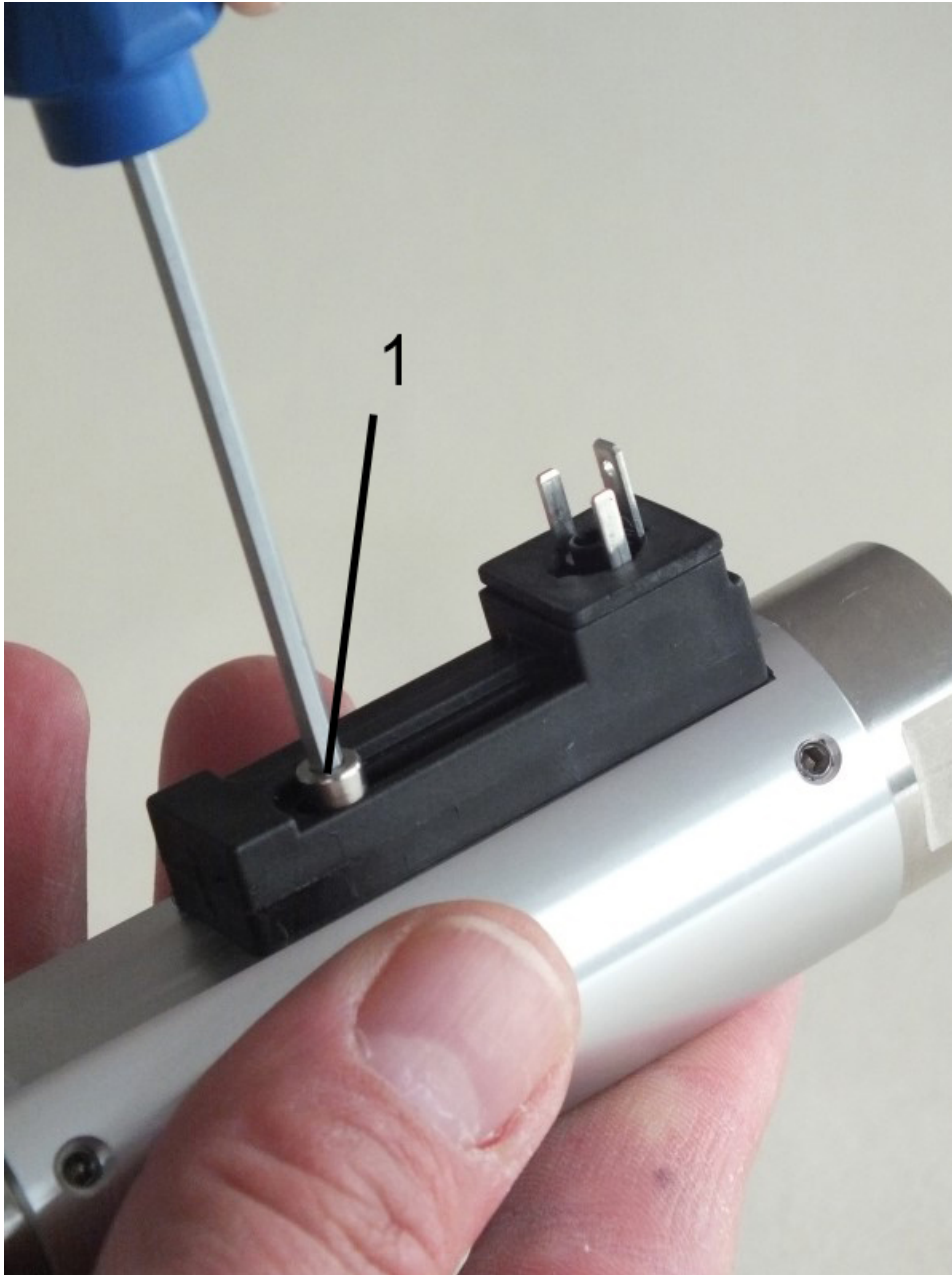

Fig. 54: Remove set screw
3. ➤ Using a hex screwdriver (*Fig. 54/1*) remove the set screw of the switch contact
- 7.** ➤ Insert the set screw (*Fig. 54/1*) and tighten it slightly so that the switch contact can still move easily
- 9.** ➤ Retighten the set screw (*Fig. 54/1*), observing the proper tightening torque (➔ *Chapter 11.1 "Tightening torque" on page 84*)